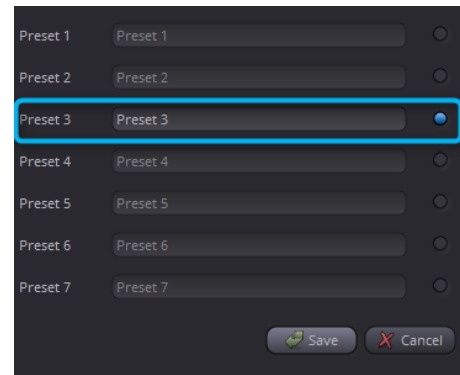

Figure 45: Saving a User Preset
1. On the “User Presets” Tab, click the button “Save To” to open the dialog shown in (Figure 45: Saving a User Preset)